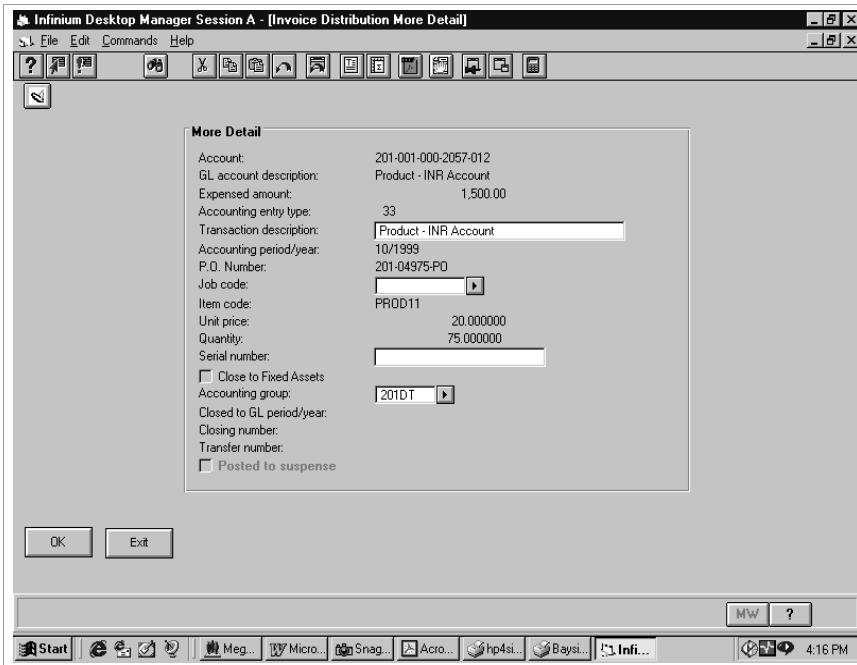

Figure 6-6: Invoice Distribution More Detail screen
The system displays the screen illustrated in Figure 6-6.
- 1 To view the detailed distribution information, select an entry. Select *More details* or type 6 and press Enter. The system displays the Invoice Distribution More Detail screen, which is similar to Figure 6-6.